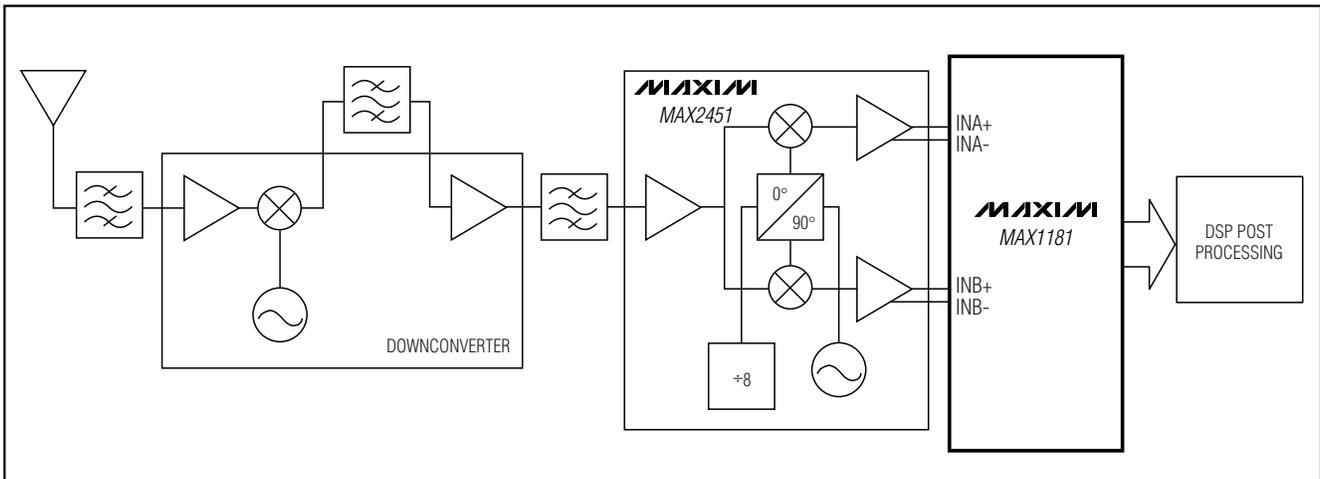

Figure 8. Typical QAM Application, Using the MAX1181
The most frequently used modulation technique for digital communications application is the Quadrature Amplitude Modulation (QAM). QAMs are typically found in spread-spectrum based systems. A QAM signal represents a carrier frequency modulated in both amplitude and phase. At the transmitter, modulating the baseband signal with quadrature outputs, a local oscillator followed by subsequent up-conversion can generate the QAM signal. The result is an in-phase (I) and a quadrature (Q) carrier component, where the Q component is 90 degrees phase-shifted with respect to the in-phase component. At the receiver, the QAM signal is divided down into its I and Q components, essentially representing the modulation process reversed. Figure 8 displays the demodulation process performed in the analog domain, using the dual-matched, +3V, 10-bit ADCs, MAX1181 and the MAX2451 quadrature demodulators, to recover and digitize the I and Q baseband signals. Before being digitized by the MAX1181, the mixed-down signal components may be filtered by matched analog filters, such as Nyquist or pulse-shaping filters which remove any unwanted images from the mixing process, enhances the overall signal-to-noise (SNR) performance, and minimizes intersymbol interference.